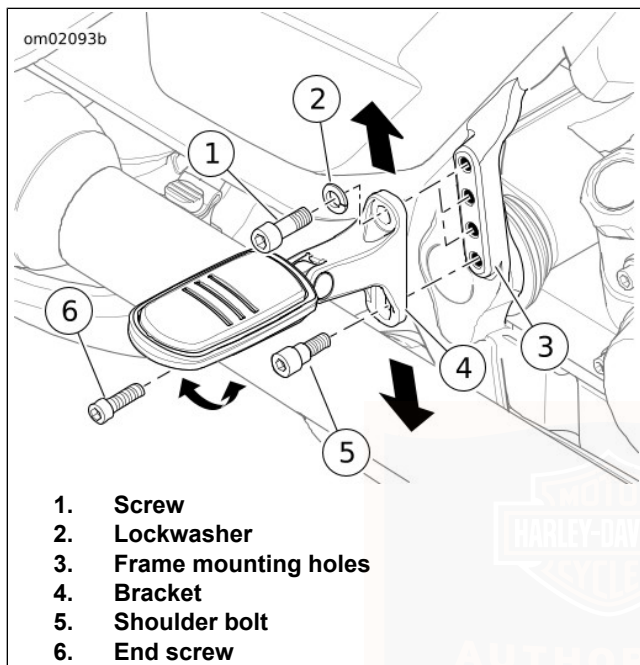

Figure 57. Passenger Footrest (typical)
See Figure 57.
1. See Figure 57. Remove the end screw (6).